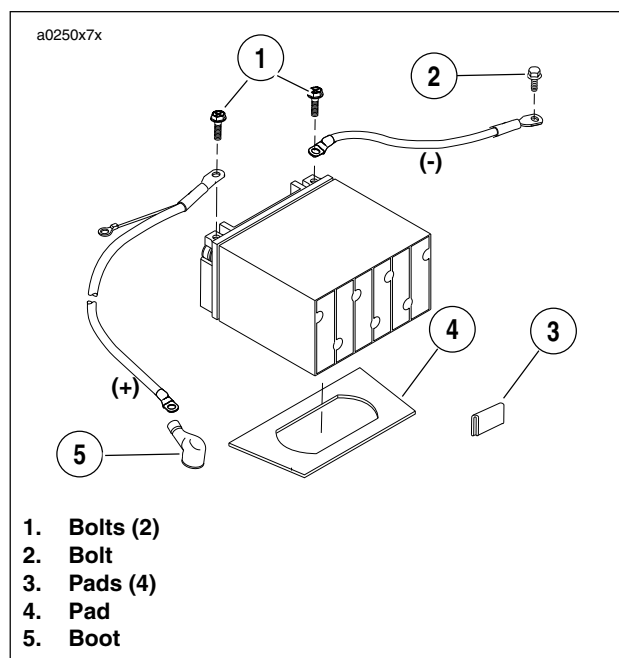

Figure 7-61. Battery Installation
2. See Figure 7-61. Insert bolt through battery positive cable (red) into threaded hole of battery positive (+) terminal. Tighten bolt to 60-96 **in-lbs** (7-11 Nm).